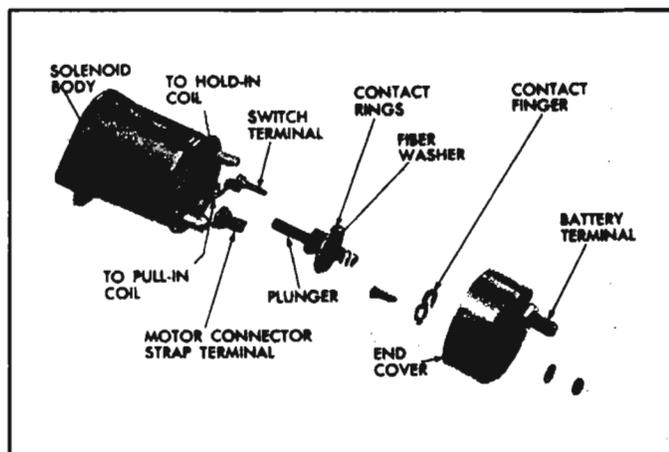

Fig. 8-49—Exploded View of Solenoid
3. Compress solenoid plunger contact ring slightly and remove outer spring, retainer, fiber washer and contact ring (fig. 8-49).
Refer to Figure 8-49.